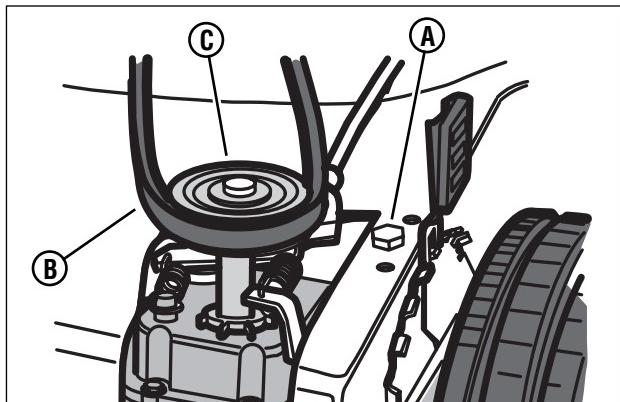

Figure 20: Loosening the belt tension bolt
3. (SP22675 & NSP22675 Only): Loosen the belt tension bolt (**A**, **Figure 20**).